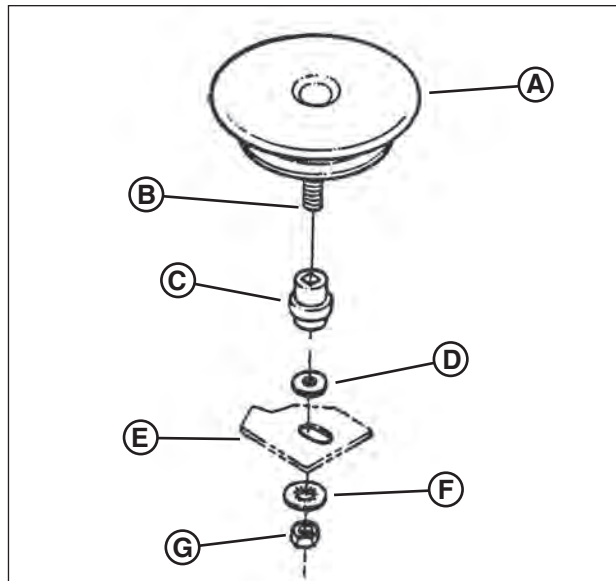

Figure 34: Removing the drive disc
5. Hold the slotted end of the drive disc bolt (**B**, **Figure 34**) with a screwdriver and remove the nut (**G**) and internal tooth lock washer (**F**).